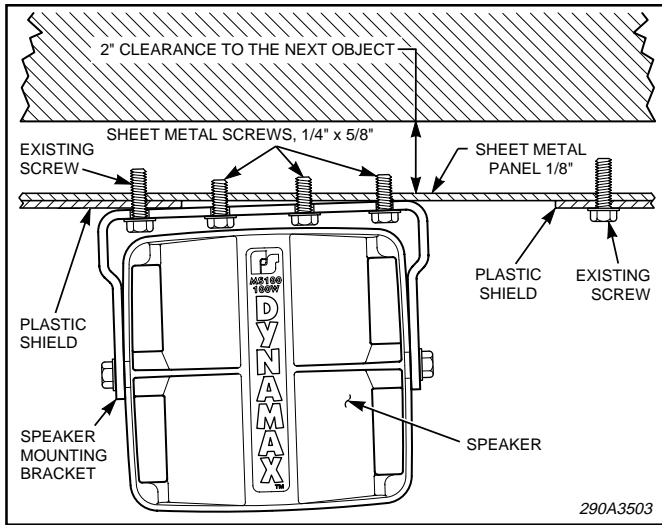

Figure 3.
b. See figure 3. Using the outer-most bracket hole, temporarily install the bracket on the mounting surface with the previously removed screw.